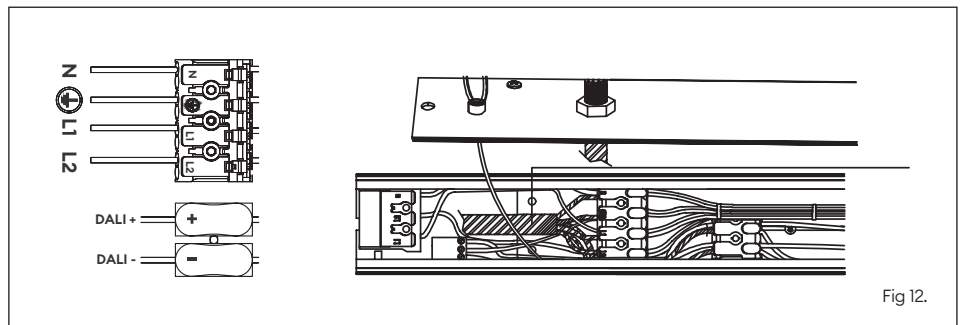

Fig 12.
7. Connect the mains supply to the terminal block located in the base of the product. N = Neutral, ⊕ = earth, L1 = Permanent Live, L2 = Switched Live, DALI cables go to the 2-pole terminal block. (Fig 12)
7. Raccordez l'alimentation secteur au bornier situé dans la base du produit. N = neutre, ⊕ = terre, L1 = tension permanente, L2 = tension commutée ; les câbles DALI sont raccordés au bornier bipolaire (fig. 12).
7. del prodotto. N = neutro, ⊕ = terra, L1 = tensione permanente, L2 = tensione commutata, i cavi DALI vanno alla morsettiere a 2 poli. (Fig. 12).
6. Connect the mains supply to the terminal block located in the base of the product. N = Neutral, ⊕ = earth, L1 = Permanent Live, L2 = Switched Live, DALI cables go to the 2-pole terminal block. (Fig 12.) or Same as Line 7 in the suspension notes.